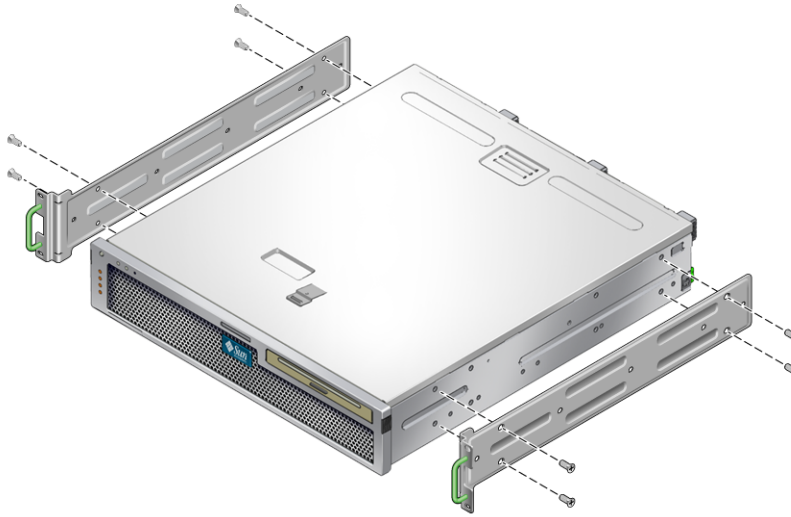

FIGURE 2-2 Securing the Hardmount Brackets to the Server
2. Use four of the supplied M5 x 4.6 mm Phillips flathead screws to secure each of the hardmount brackets to the sides of the server (FIGURE 2-2).